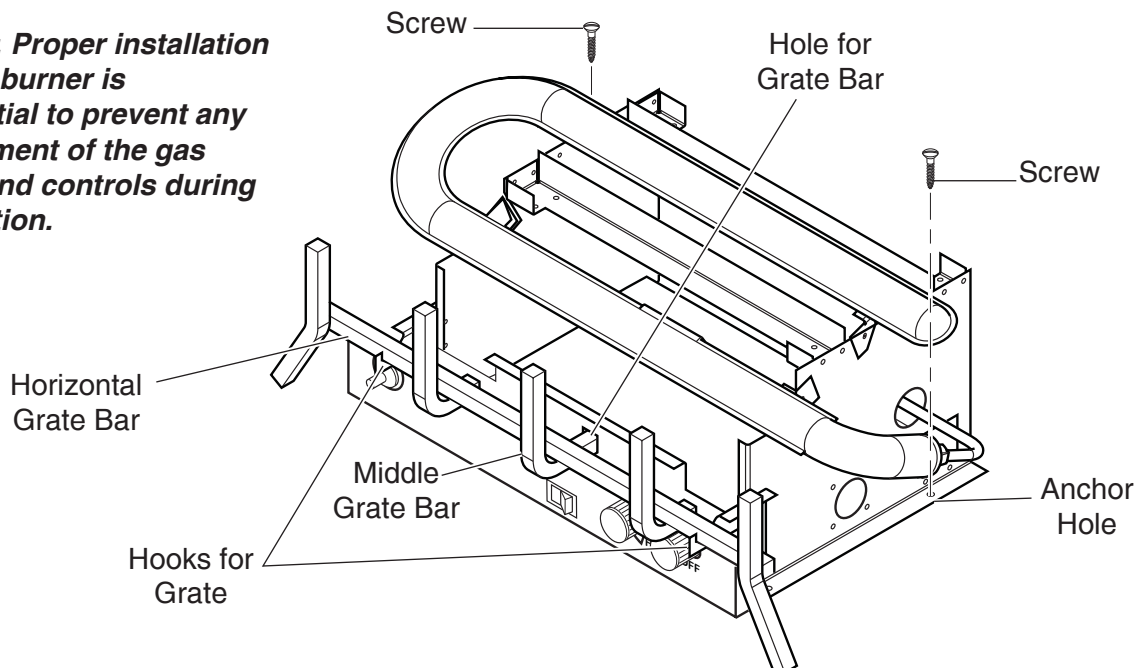

Figure 12 - Installing Grate and Securing Heater to Floor of Fireplace/Firebox
2. **Installing Grate:** Insert longest middle grate bar in one of the two square holes in control panel. *See Figure 12.* Be sure grate is centered. Sit horizontal bar inside two hooks on front of control panel. *See Figure 12.* Make certain front feet of grate are located inside front edge of fireplace or firebox.
3. Anchor holes are located on the flange of the unit. *See Figure 12.* After centering the burner correctly, mark the hole positions on the fireplace/firebox floor. Drill two (2) $\frac{5}{32}$ " diameter holes approximately $1\frac{1}{2}$ " deep.
4. Anchor the unit to the fireplace/firebox floor using the screws provided. *See Figure 12.*